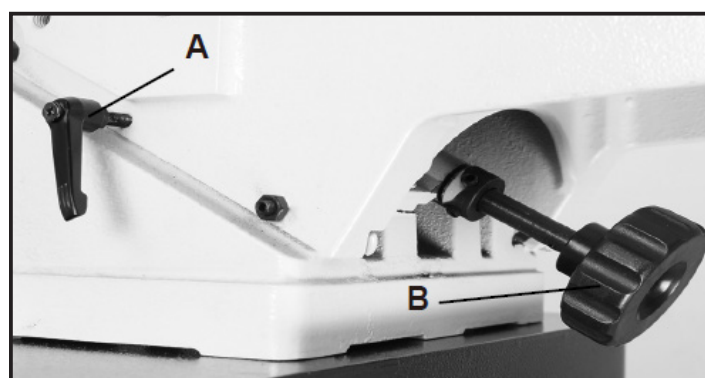

FIG.7.2.3
- Release the locking lever (A) at the rear of the outfeed table. FIG. 7.2.3.
- Turn the handwheel (B) to adjust the outfeed table until it is parallel with the edge of the cutter(s). FIG. 7.2.3.
- Once the table is set, tighten the locking lever (A) to secure the table in its new setting. FIG. 7.2.3.